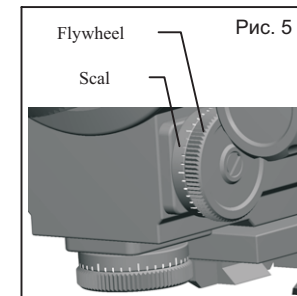

Figure 6
- Set the sighting mark to the center position by turning correction mechanisms flywheels (fig.6)